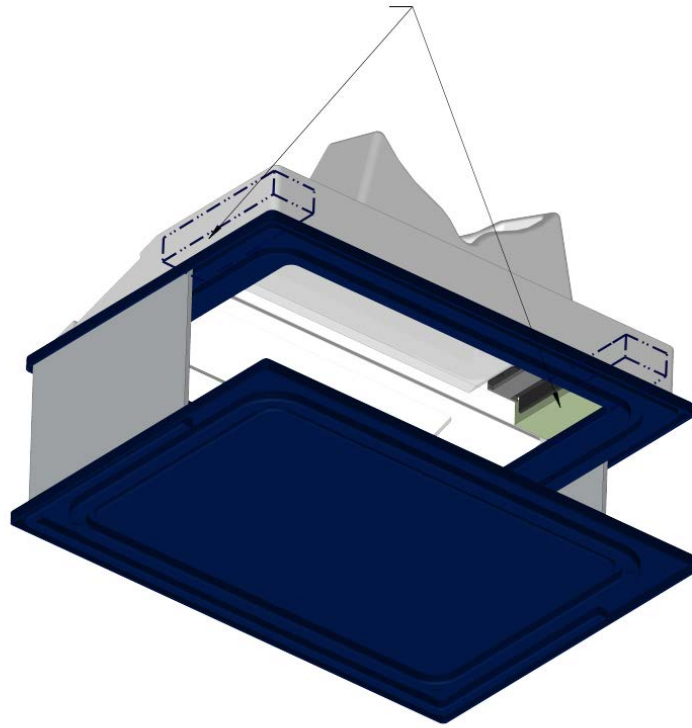

Figure 1
- ✓ Remove the shipping protections at both sides of the UV filter (see Figure 1).